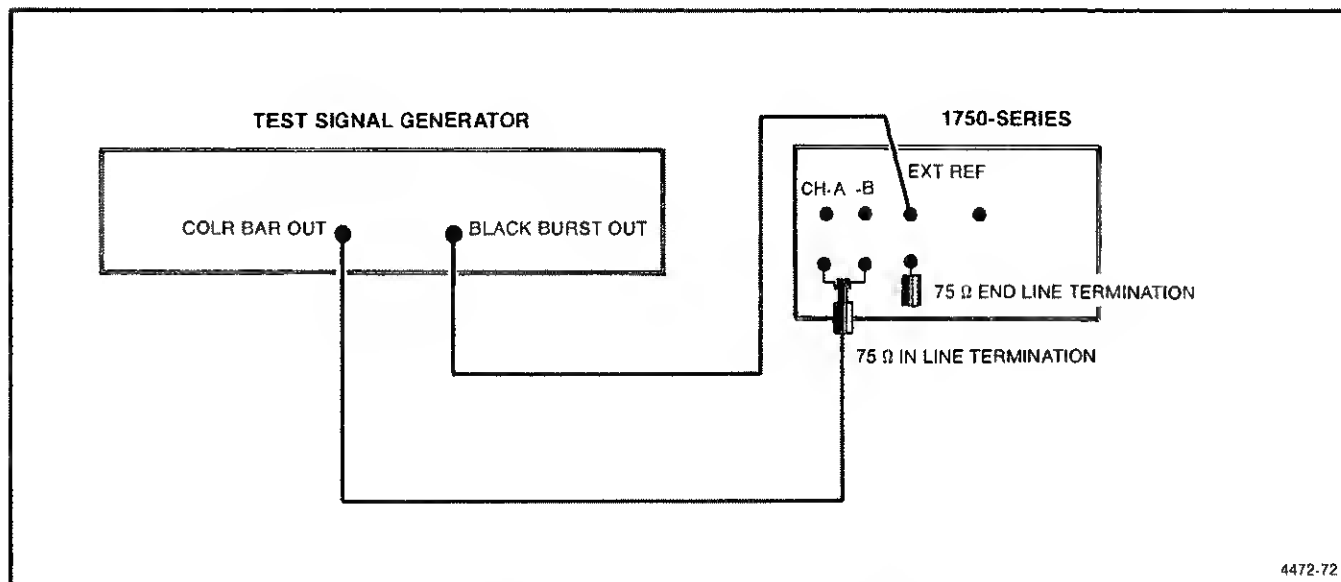

Fig. 5-8. Driving both CH-A and CH-B INPUTs with Color Bar signal.
a. See Fig. 5-8. Connect the Color Bar through a 75  $\Omega$  coaxial cable, a 75  $\Omega$  feedthrough terminator, and a dual input coupler to INPUTs A and B. Connect the Black Burst to the EXT REF INPUT. Display INPUTs A and B alternately with the VECTOR display and EXT REF.